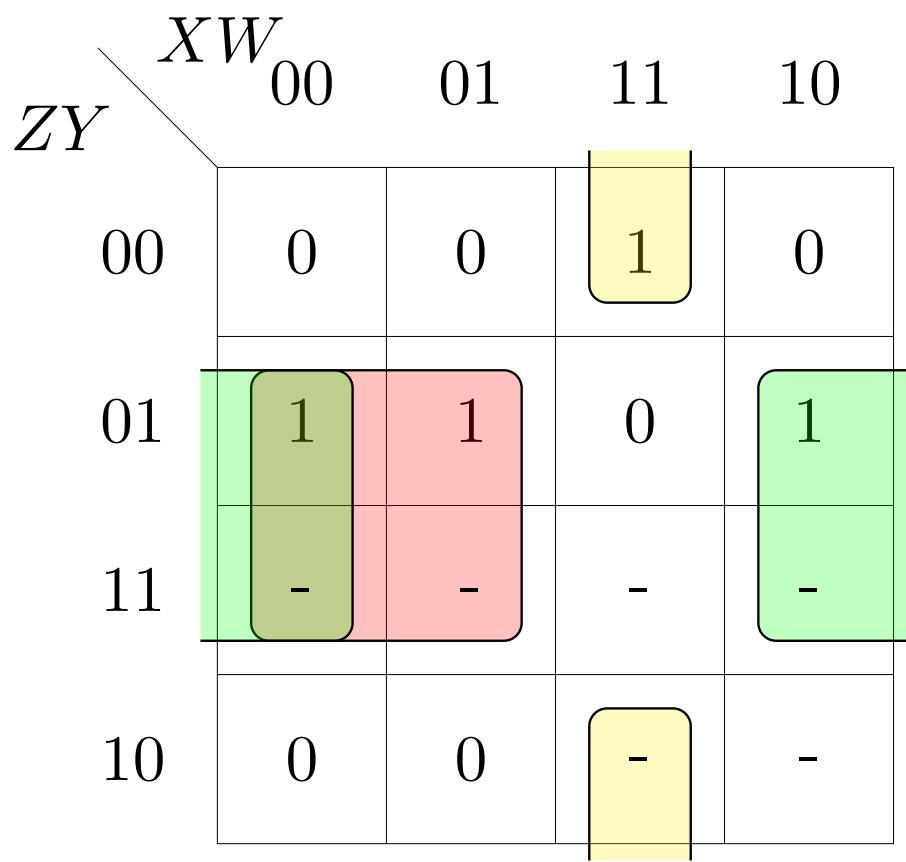

Figure 4.7: K-map for  $C$  with don't care
4. The revised K-map for C is available in Fig 4.7 Show that